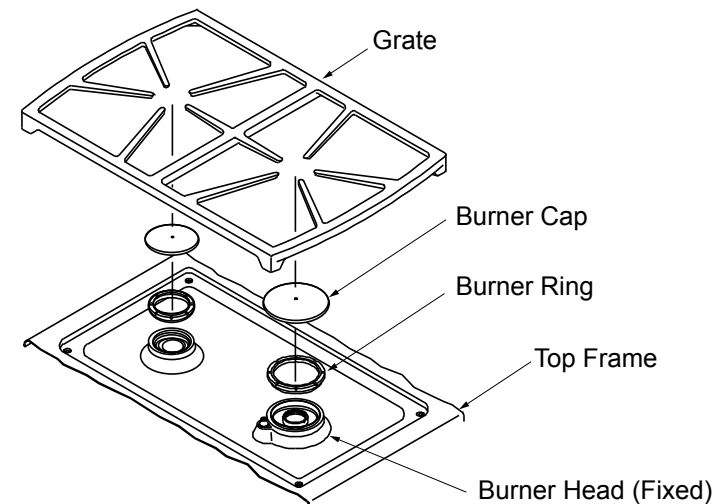
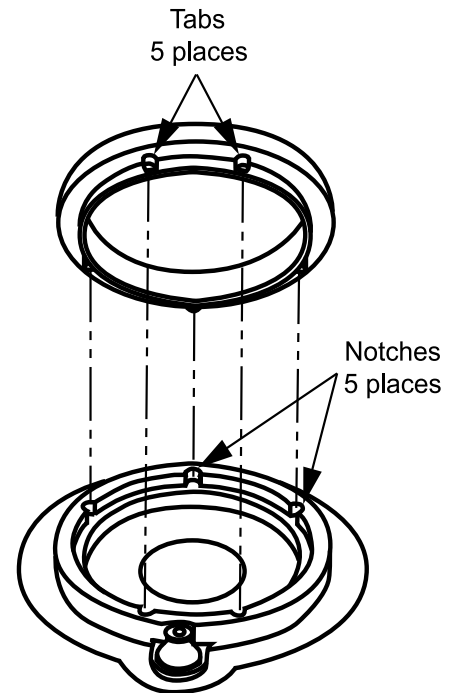

Figure 1 - Burner and Grate Assembly
Figure 2 - Burner Ring Notches
1. Put the burner ring on the burner head of each burner as shown in Figure 1. Be sure to match the correct sizes. As you put each ring in place, line up the five tabs on the bottom of the ring with the five notches in the top of each burner head (see figure 2). Twist each ring back and forth slightly to make sure it is properly seated.
2. Put the burner cap for each burner over the top of each burner ring (see Figure 1). Be sure to match the correct sizes. The ridge around the bottom edge of the cap goes around the top of the burner ring.
3. Gently set the grates on top of the spill tray. Put the legs of each grate into the corresponding dimples as shown in Figure 1.